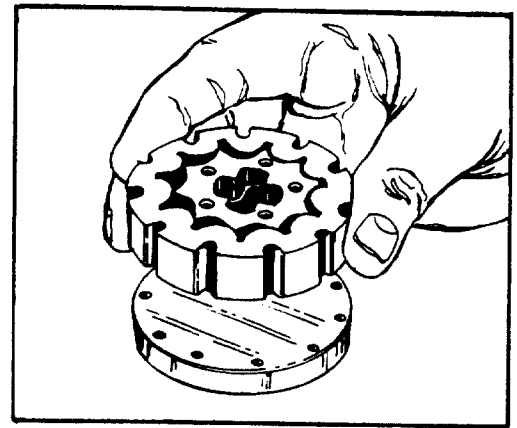

FIGURE 55.
11. Place the drive plate (26) on a clean lint-free surface with the eleven tapped holes facing up. Place the rotor set (24, 25) on top of the drive plate with the five pin holes facing up. Rotate the stator (25) until the eleven hex socket head screw relief slots are aligned with the tapped holes in the drive plate. See figure 55.